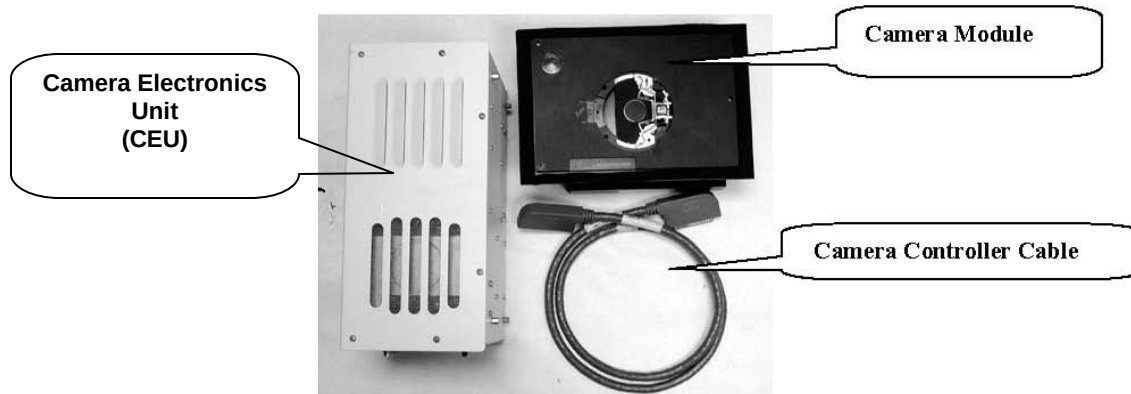

Figure 3.5. VersaDoc 5000 and CEU.
1. The VersaDoc 5000 and MP 5000 camera modules come with a camera electronics unit (CEU) and a controller cable. See figure 3.5 below :